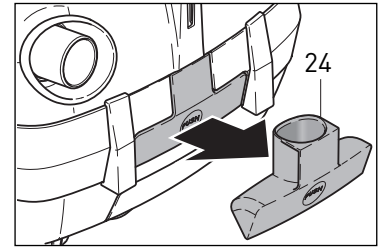
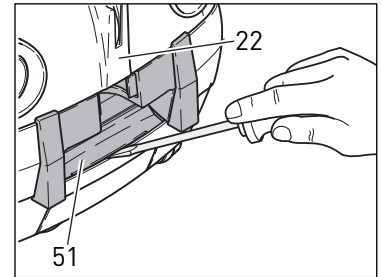

Figure 27
Figure 28
To remove the AIRBELT system (25 & 52), remove the upholstery nozzle from the rear of the machine (figure 27), and lever out the nozzle holder (51) using a slot-head screwdriver (figure 28). The AIRBELT system (25 & 52) can then be pried out of the recess with a screwdriver (figure 29) and removed by carefully sliding the assembly toward the front of the machine (figure 30). Remove the damaged cloth cover (25) from the foam bumper (52).